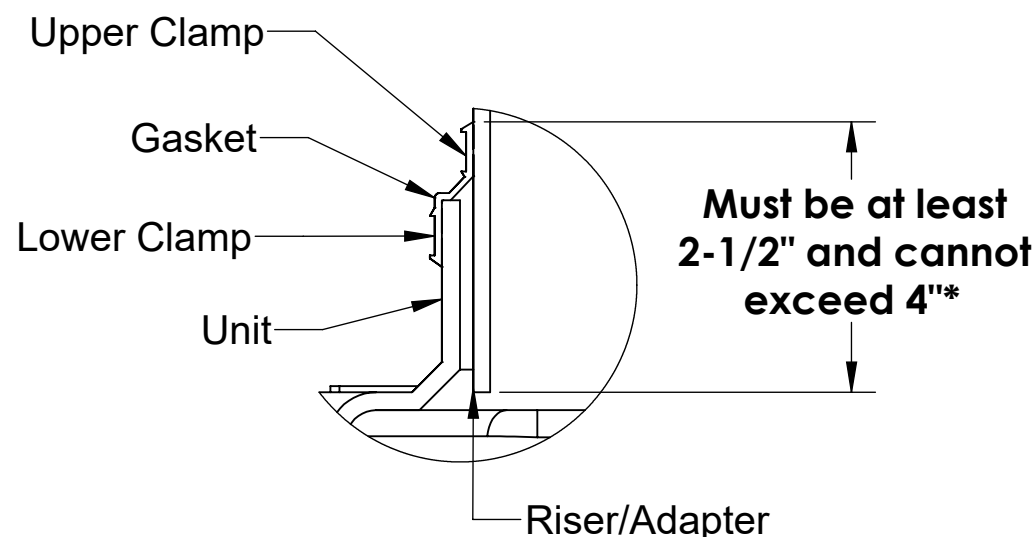

Figure 4
11. Verify that the bottom of the lowest riser is protruding at least 2-1/2" but no more than 4" into the main unit from the top of the gasket. Your mark from step 7 should be at the top edge of the gasket on the main unit. If measurements were made correctly, this should happen automatically. See figure 4.
15. If jobsite riser height conditions change after the above steps have been completed, there may still be room for vertical adjustment in both directions. As long as minimum and maximum overlaps are maintained (see Figure 4), the adapter/riser(s) can be adjusted/cut as many times as necessary. Please follow these steps from the beginning to ensure the proper overlaps are maintained.